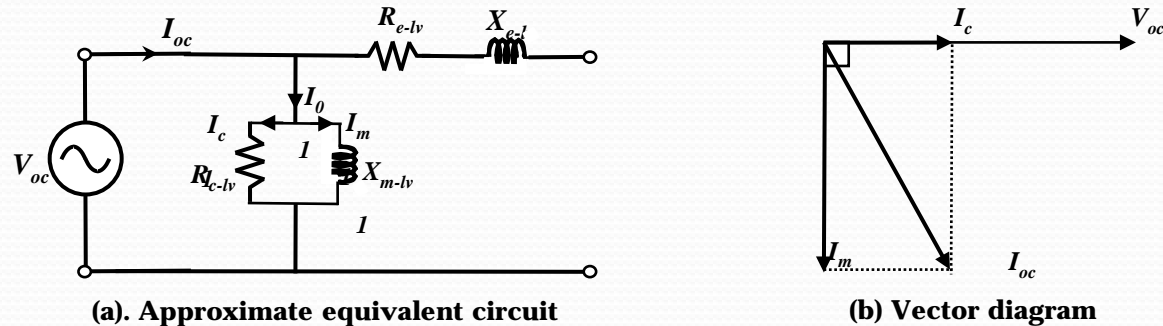

Figure 4.29 Open circuit test
- The approximate equivalent circuit for the circuit connection during OC test is shown in Figure 4.29 (a). Since the test is conducted on the low voltage side, the parameters obtained will be the effective values referred to the lv side.